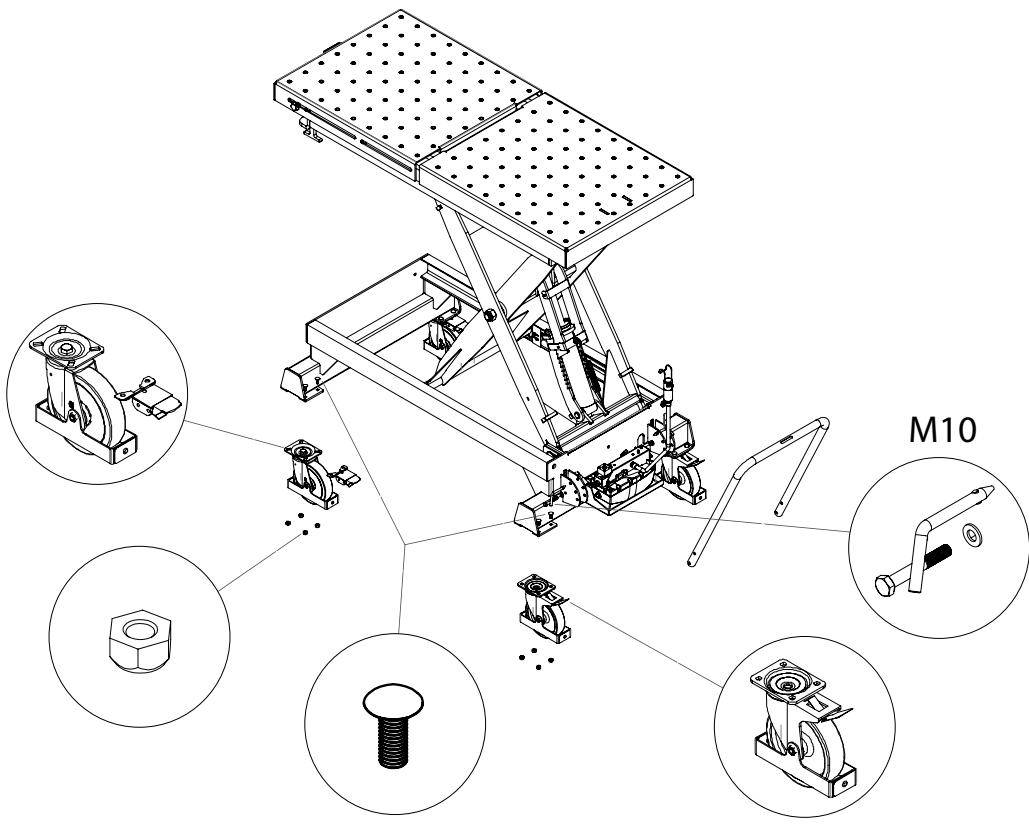

figure 01
- The handle must be assembled as indicated in "figure 01"
- The wheels must be mounted as indicated in "figure 01"
The wheels with brakes must go next to the handle "figure 01"
The wheels with directional lock must go to the opposite side of the handle "figure 01"